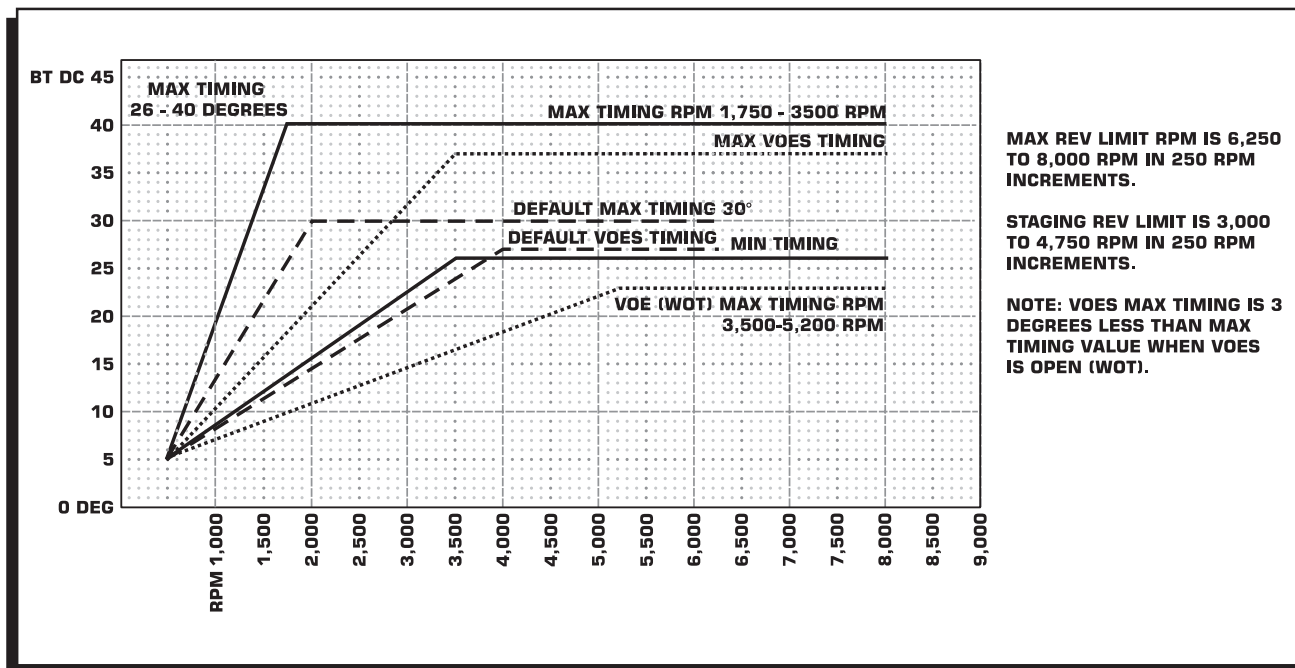

Figure 7 Timing Curve.
The MSD Pulse produces the computer-generated timing curve shown in Figure 7. Several programming options are available to tune the ignition to your application. There are two switch assemblies behind the aluminum base plate on the back of the MSD unit where programming changes are made (Figure 8).
**Note:** Figure 7 on page 6 shows an example of the basic advance curve with a 4,000 rpm VOES curve.